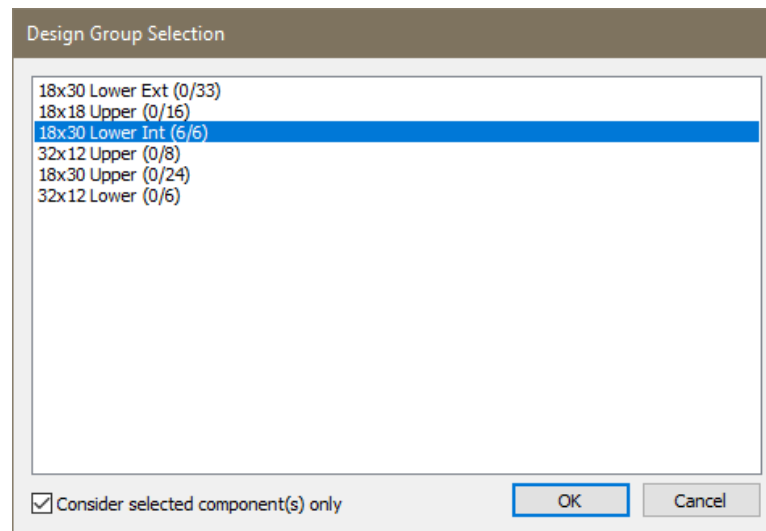

Figure 16-7
- Select the Design Group as shown in **FIGURE 16-7** and select **OK**. This will initiate the code check process for this design group.